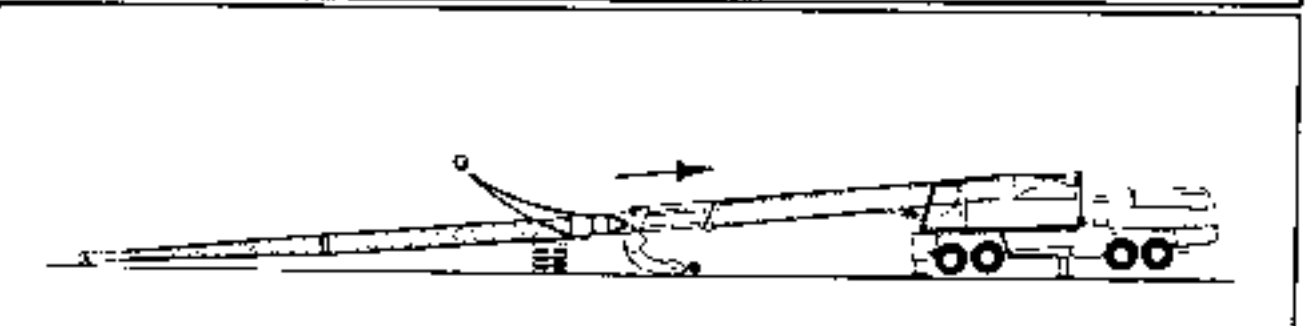

Fig. 4-16
Step 5: Remove the lower pins at "G". Refer to Fig. 4-16 and construct blocking that is secure and stable.